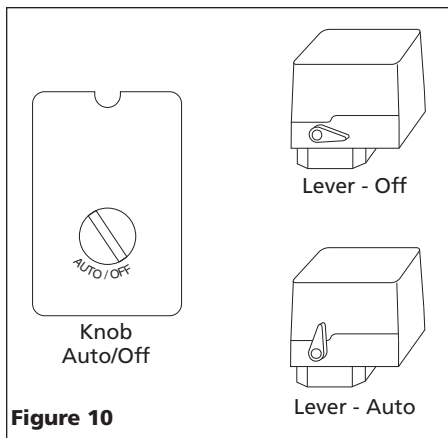

Figure 10
4. Turn pressure switch lever or knob to AUTO position and run unit for 30 minutes to break in the pump parts (See Figure 10).
7. Turn pressure switch lever or knob to OFF position and unplug powercord. Slowly turn regulator knob clockwise to allow all air pressure to be released. Do not proceed to the next step until the tank pressure reaches zero (0).